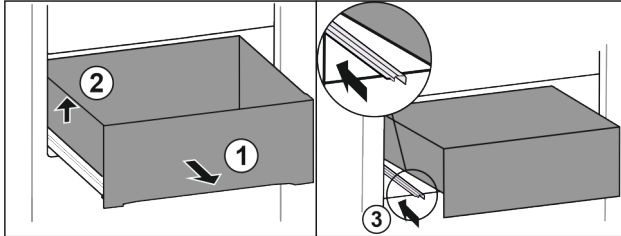

Fig. 127
- Pull out drawer as far as it will go. Fig. 127 (1)
- Lift drawer on the left. Fig. 127 (2)
- Insert left rail. Fig. 127 (3)